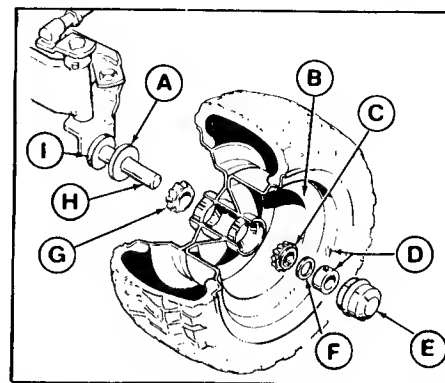

Figure 8. Repack Front Wheel Bearings
2. Pry off grease cup with a screwdriver or a claw hammer (figure 8).